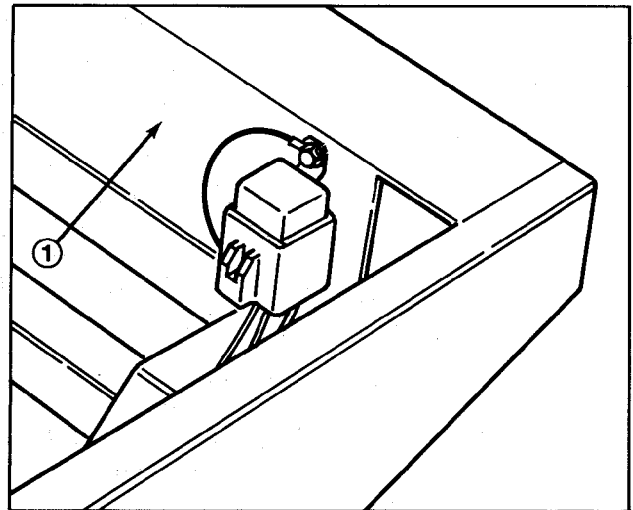

Figure 6
2. Position the starter relay on the rear inner left side of the frame (Fig. 6). Locate the relay high enough to keep the wires from rubbing on the frame and far enough toward the outside to keep the wires away from the engine.